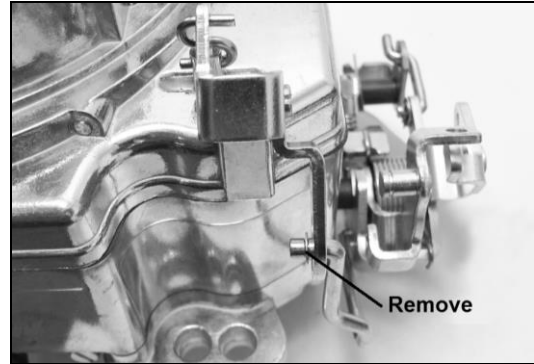

Figure 23
5. Disconnect the accelerator pump rod from the pump arm by carefully removing the c-clip (Fig. 23).